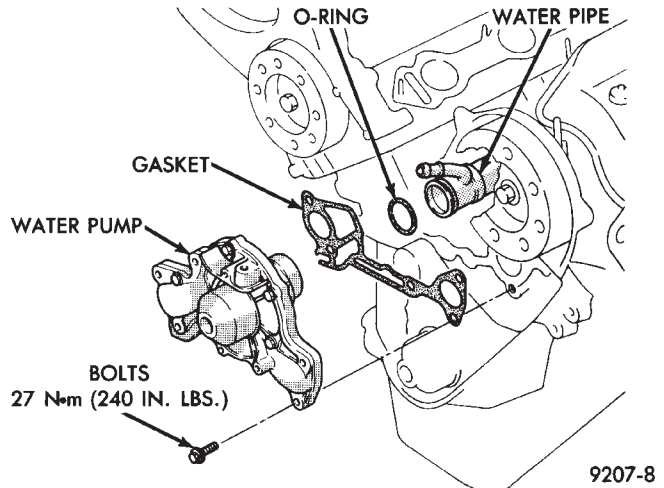

Fig. 4 Water Pump—3.0L Engine
The 3.0L pump bolts directly to the engine block, using a gasket for pump to block sealing (Fig. 4). The pump is serviced as a unit.
- (1) Drain cooling system. Refer to Draining Cooling System in this group.
- (2) Remove mounting bolts.
- (3) Separate pump from water inlet pipe (Figs. 4 and 5) and remove.